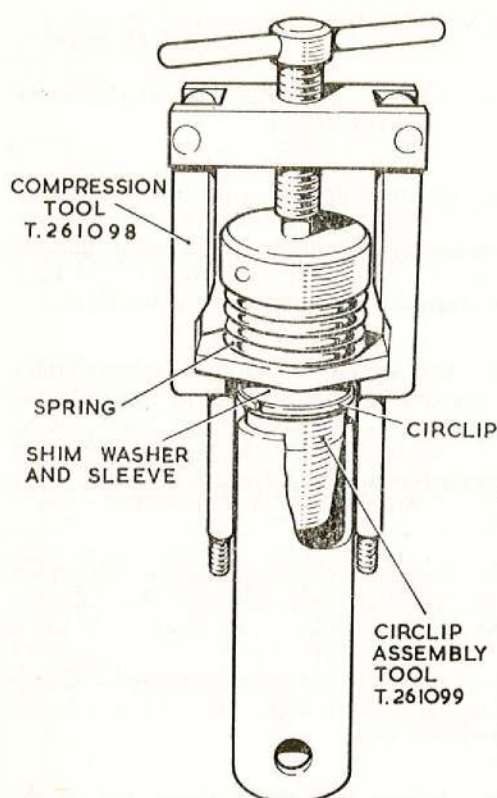

Fig. 6. Fitting the spring sleeve circlip
50. Insert the small shim washer/s (51) into the tail bearing (52), place a sealing ring over the bearing shoulder and assemble to the two studs in the base of the body. Fit two tabwashers and nuts but do not lock them.
51. Check the end-float of the cam spindle. This should be between 0.005 and 0.010 in whilst maintaining a minimum clearance gap of 0.013 in between the camplate spindle cover (34) and the disc control plate (35). If necessary, add to or subtract from the small shim washers in the tail bearing from the range of different thicknesses provided.
52. Assemble the shim washer/s (60), spring (59) and spring sleeve (63) to the guide rod
and plate assembly (61). Fit the parts to the compression tool T.261098 (fig. 6) compress the spring sufficient to push the sleeve through the guide rod plate then fit the circlip (62) using the tool T.261099. Remove the tools and check that the spring is seating square and that there is free movement of the sleeve.
53. Fit the built-up assembly to the governor body (39) and assemble the camplate (50) to the guide rods. Fit but do not lock the two tabwashers and nuts.
54. Assemble the governor plunger and shim washer (55) to the carbon thrust pad (54) and thrust ring (53). Loosely assemble the tabwasher and nut and fit the plunger to the assembly tool T.248403. Locate the top pegs of the tool in the thrust ring holes, secure the plunger with the large knurled screws and tighten the plunger nut to a torque of 15 lb in. Remove from the tool, lock the tabwasher and fit the spring seat (56), spring (57), shim washer (58) and stop sleeve and shim washer (64) to the plunger. Fit the built-up assembly to the governor plunger orifice (28).
55. Fit a sealing ring to the orifice body (30) and a smaller seal in the governor body bore. Loosely assemble the governor bleed screw (31) with bonded seals, locknut and dome nut (32) to the orifice body and fit to the governor body. Fit a washer, grover washer and nut.